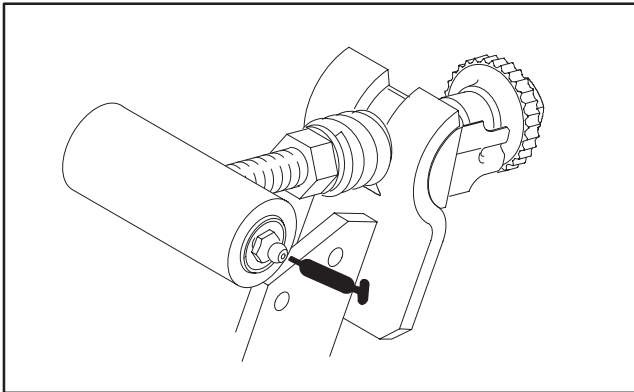
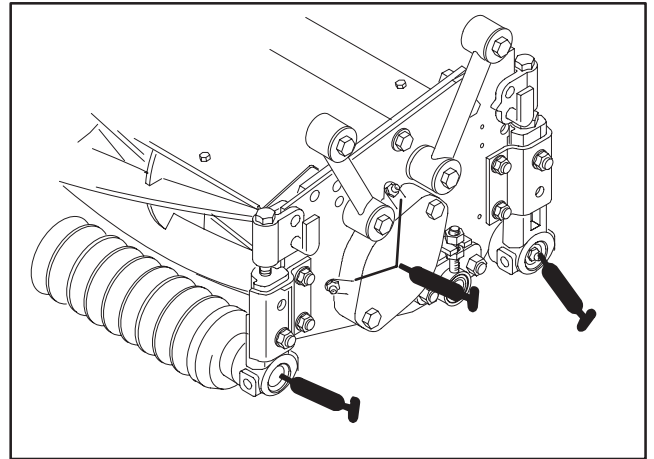

Figure 11
Figure 12
1. The grease fitting locations and quantities are: Bedknife adjuster (2), every 50 hours (Fig. 11); Reel bearings (2) and front and rear rollers (2 ea.) (Fig. 12).